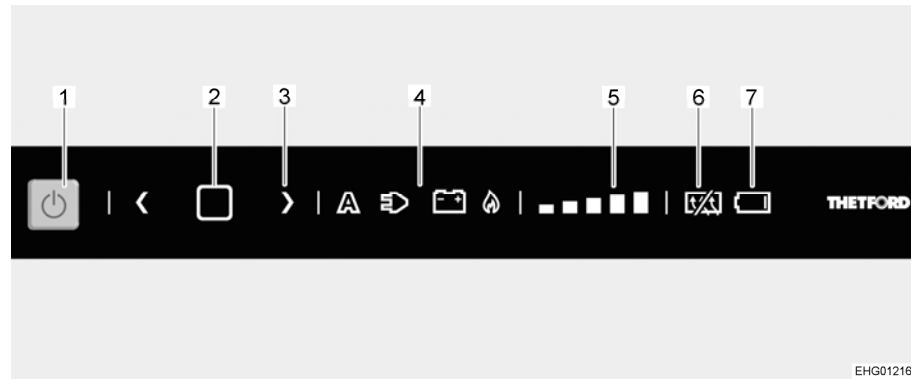

Fig. 186 LED operating panel
- Press and hold the On/Off button (Fig. 186,1) for 1 second. Button lights up blue. The last setting selected lights up.
- Press and hold the confirmation button (Fig. 186,2) for 2 seconds until the energy source symbol (Fig. 186,4) starts flashing.
- Press an arrow key (Fig. 186,3) to select the desired energy source.
- Press confirmation button (Fig. 186,2) to confirm the selection.
- Press confirmation button (Fig. 186,2) again. The cooling level indicator (Fig. 186,5) starts flashing.
- Press an arrow key (Fig. 186,3) to select the desired cooling level.
- Press and hold the On/Off button (Fig. 186,1) for about 2 seconds. All lights go out. Refrigerator is switched off.